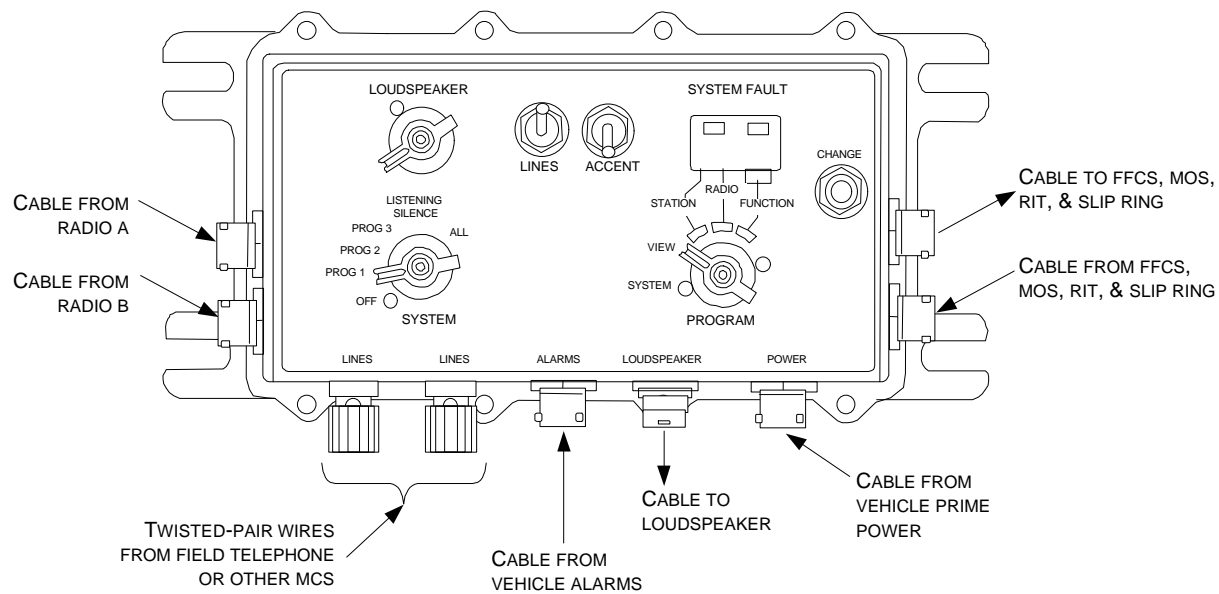

Figure 3-1. Master Control Station (MCS)
3.2. MCS REMOVAL AND REPLACEMENT (Fig. 3-1)